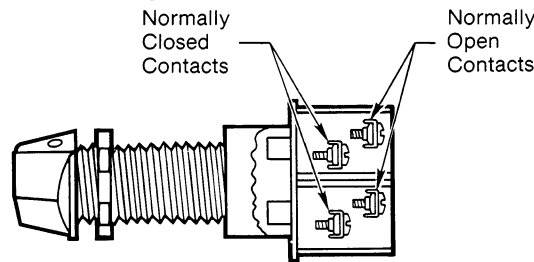

Figure 11
- EMP and EMPS pushbutton and selector switch devices are provided with binding screw terminals that will accommodate conductors in sizes from #16 AWG to #12 AWG. Normally open contacts and normally closed contacts are identified in Figure 11.